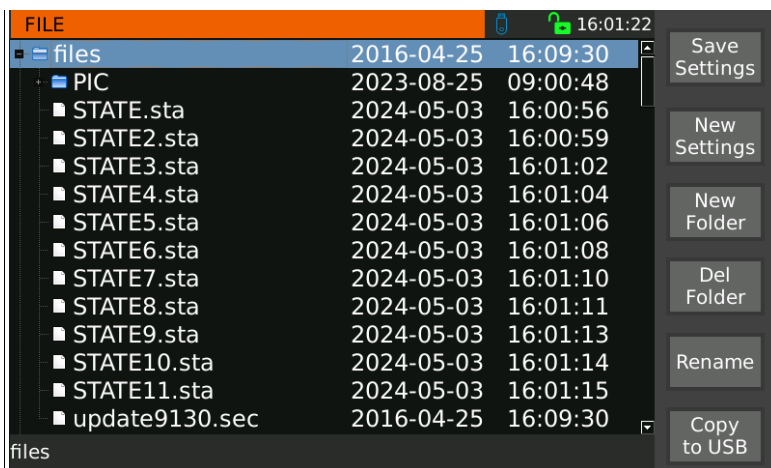

Figure 3-41 Internal Folder Interface
- 1, press **[FILE]** key, enter the file management interface, as shown in Figure 3-41.